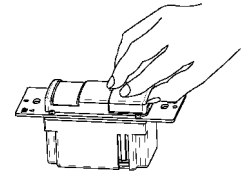

Figure 3
8. Remove the small cover plate. (Illustrated as Figure 3.)